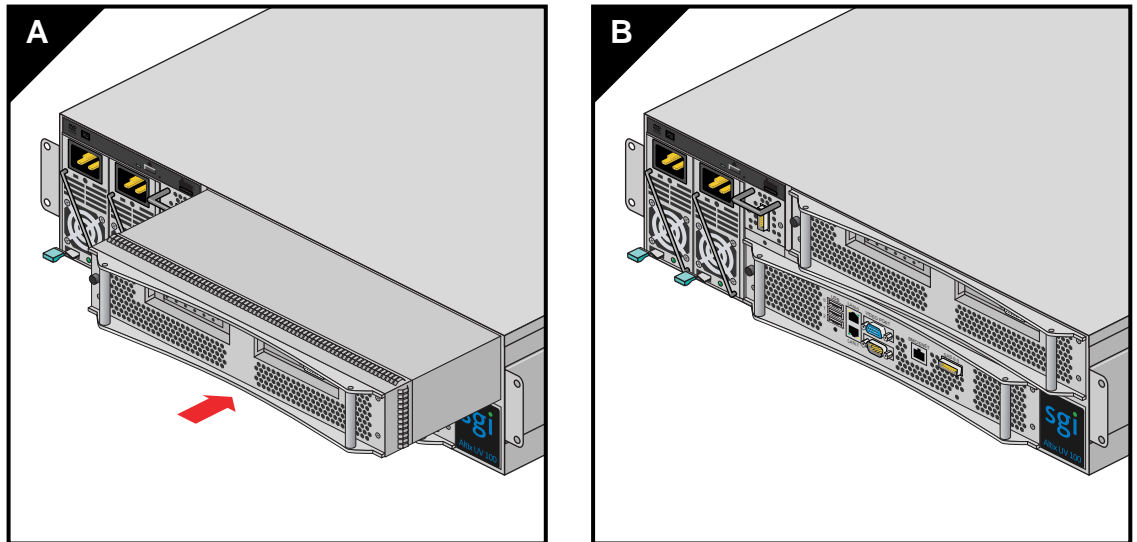

Figure 5-7 Reinstall PCIe Riser Blade in the Altix UV 100
11. Slide the blade back into the IRU and restart the system or blade, see Figure 5-7 for an example.